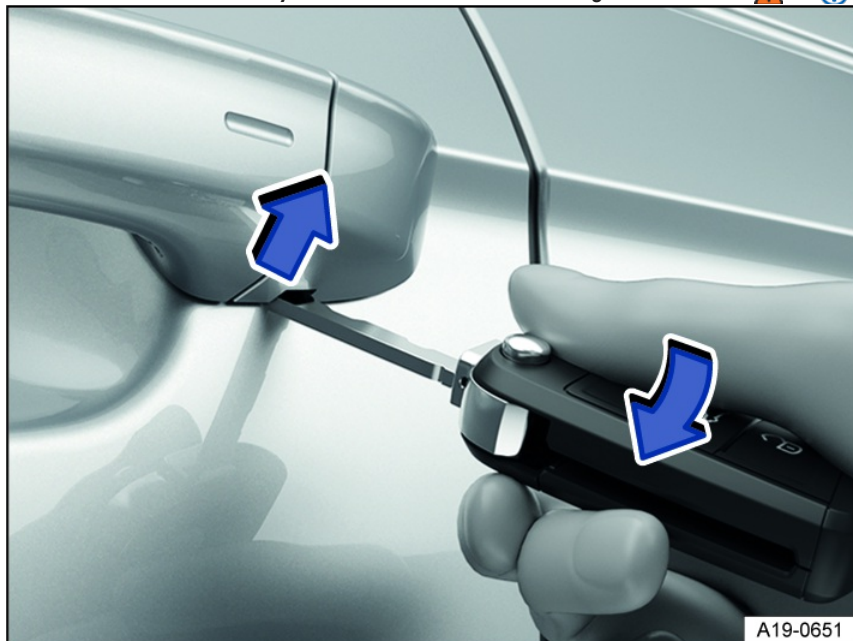

Fig. 49 Driver's door handle: prying off the cap.
3. Use the vehicle key to pry the cap off in the direction of the arrow fig. 49.